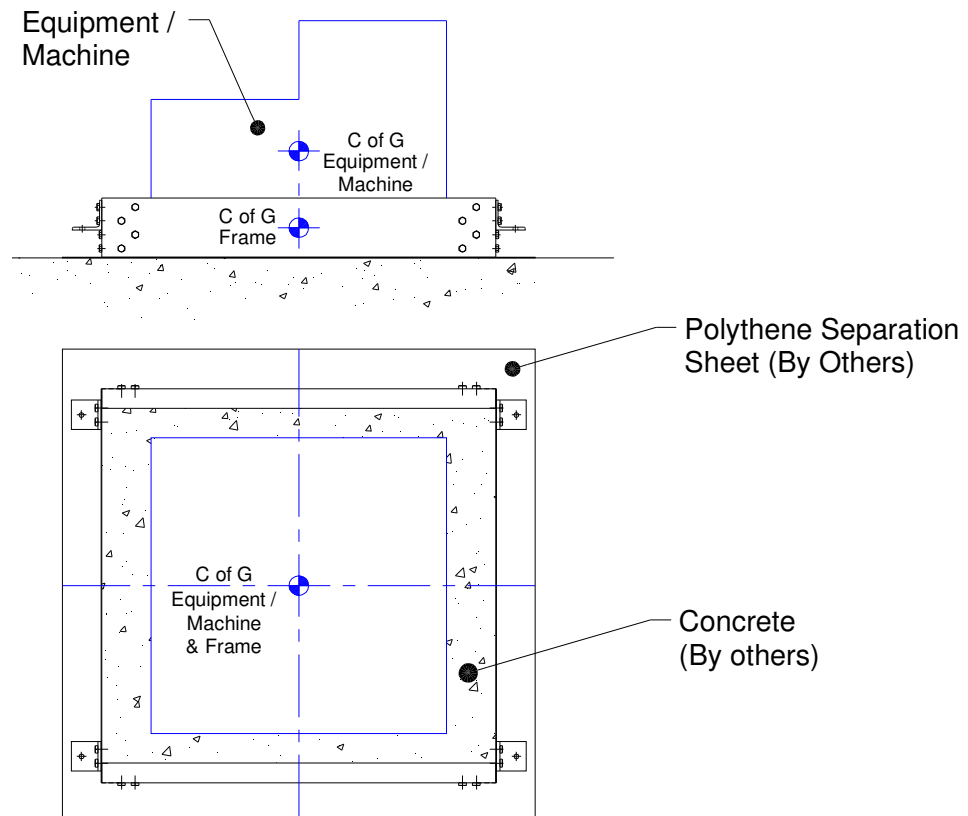

Figure 4
- 6) When the concrete has cured sufficiently (minimum of 72 hours) the equipment or machine can then be securely fixed to the upper surface using suitable expanding type bolt fixings. Note: it is important that the centre of gravity of the equipment or machine is positioned vertically above the centre of gravity of the inertia pouring frame (See Figure 4).